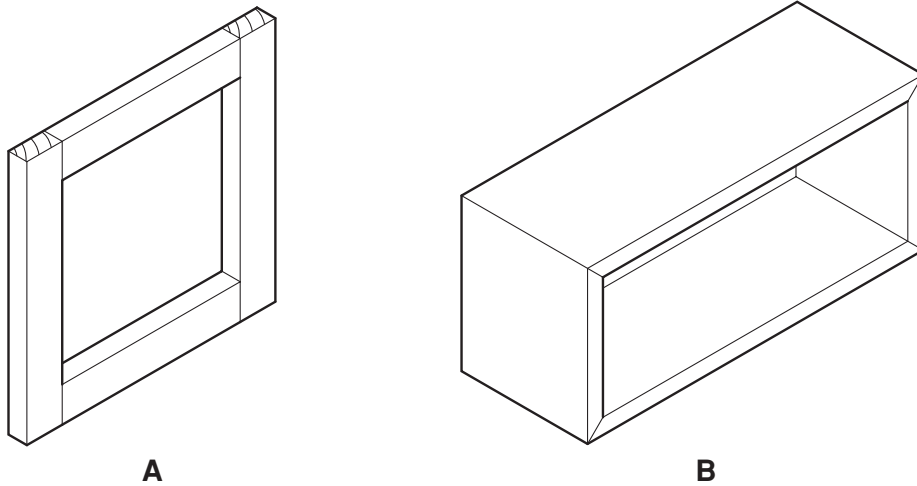

Fig. 1
- 1 Name the two forms of woodwork construction shown in Fig. 1. [2]